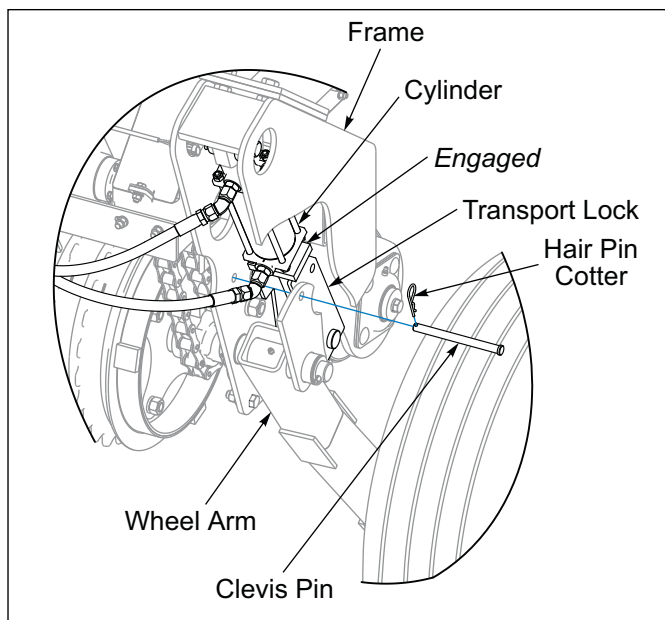

Figure 3-5: Transport Lock Engaged
4. If Transport Locks are not engaged, fully extend the Hydraulic Lift Cylinders and rotate Transport Locks in the engaged position over the Cylinder Rods. Secure with the Clevis Pins and Hairpin Cotter. See **Figure 3-5**.
2. Raise the Seeder fully to extend the Hydraulic Lift Cylinders and rotate the Transport Locks in the engaged position over the Cylinder Rod. Secure with the Clevis Pins and Hairpin Cotters. **See Figure 3-5.**
3. If not already done, raise Seeder fully to extend the Hydraulic Lift Cylinders and rotate the Transport Locks in the engaged position over the Cylinder Rod. Secure with the Clevis Pins and Hairpin Cotters. **See Figure 3-5.**
1. Raise the Seeder fully to extend the Hydraulic Lift Cylinders and rotate the Transport Locks to the engaged position. Secure with the Clevis Pins and Hairpin Cotters. **See Figure 3-5.**
6. Re-install Transport Locks. **See Figure 3-5.**